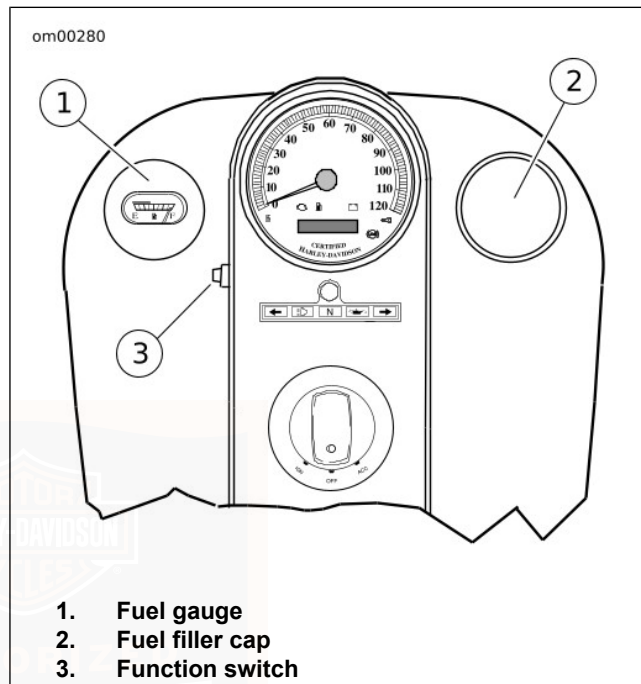

Figure 16. Fuel Tank: FLHR/FLHRC
- See Figure 16. On FLHR/FLHRC models, the fuel filler cap is located on the right side of the fuel tank. The cap on the left side is the fuel gauge and is not removable.